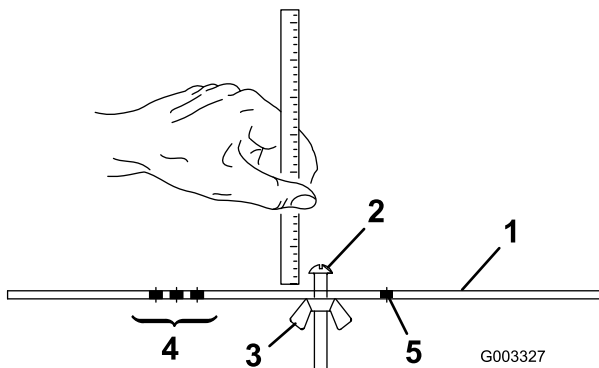

Figure 24
2. Loosen nut on gauge bar (Figure 24) and set adjusting screw to desired height-of-cut.